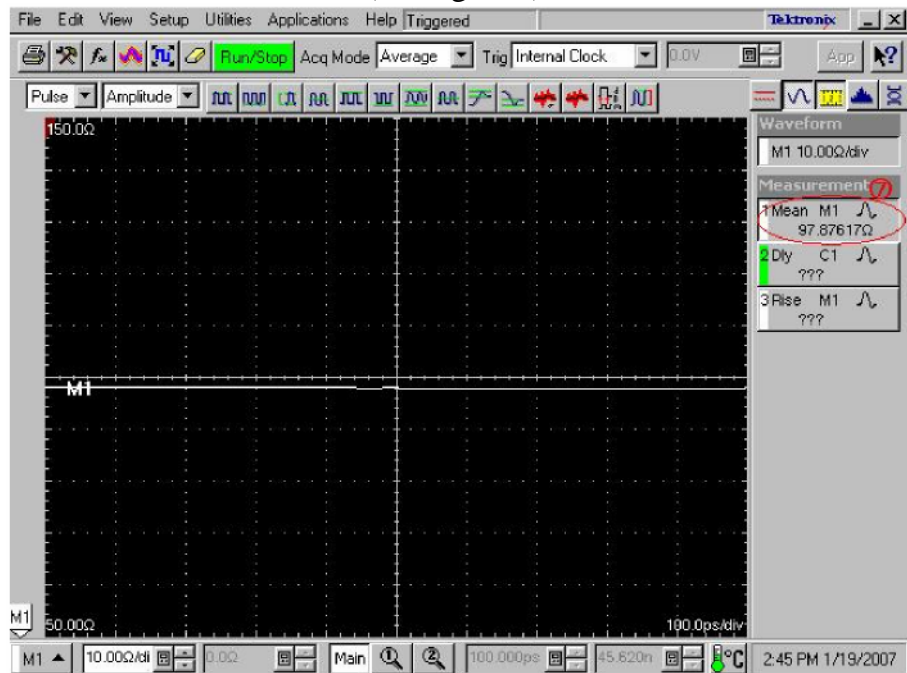

Figure 8: Measuring the M1 value
15. Measure the mean value of M1 (see Figure 8).